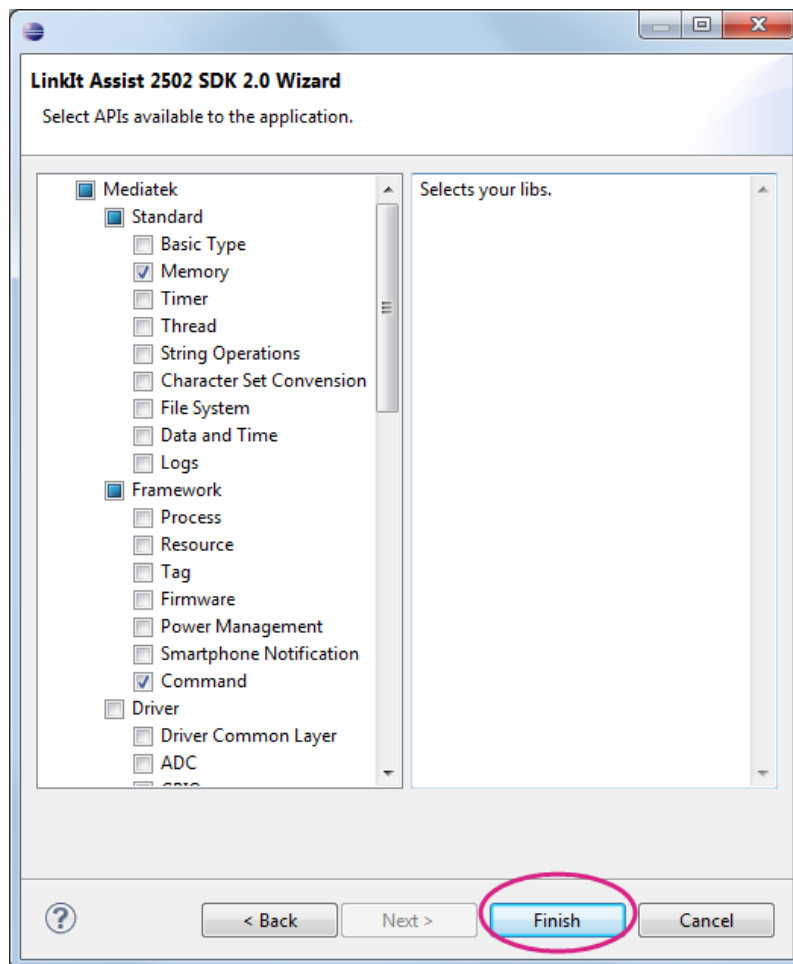

Figure 19 LinkIt Assist 2502 libraries
- 4) The library selection page displays, as shown in Figure 19. The library selection page enables you to include library header files into your project. You can always manually add header files later using the `#include` command. You can proceed with default libraries for the first project and click **Finish**.